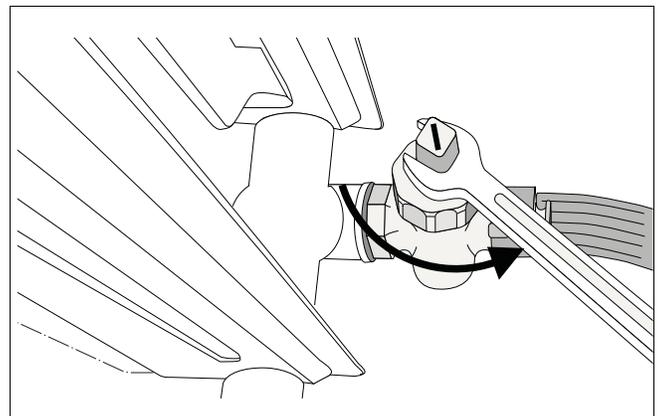

Fig. 74 Draining the heating system (example)
- Drain the heating water at the lowest point of the heating system, using the drain cock or the heating body (fig. 74). The (automatic) air vent at the highest point of the heating system/radiator must be open.